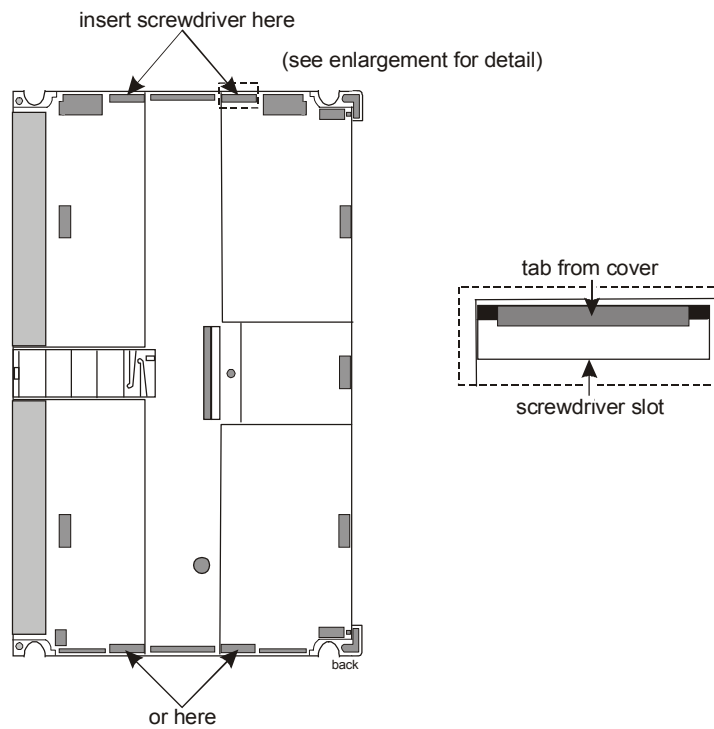

Figure 14: Back of the N30
2. Turn over the N30 so that the back faces you and locate the screwdriver slots (Figure 14).